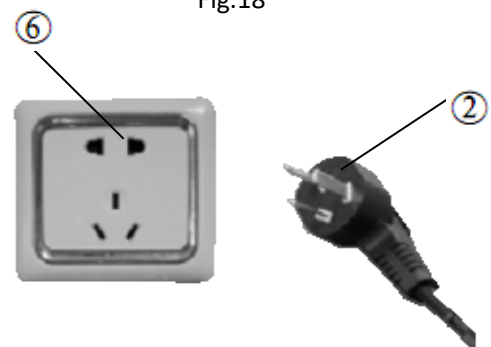

Fig.19
4. Connect the other end of the power cord ② to a wall outlet ⑥.(Fig.19)